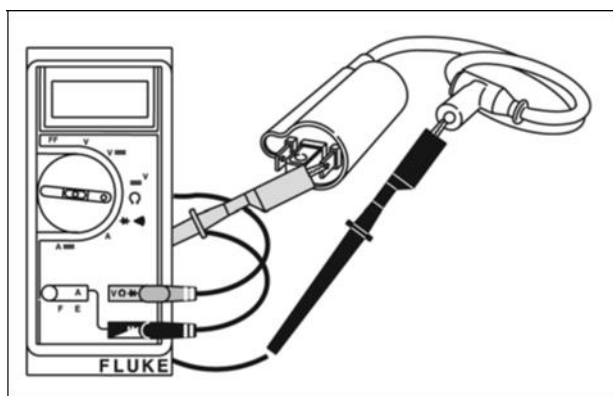

Figure 8
2. Check coil secondary resistance between + terminals and spark plug lead (Figure 8).